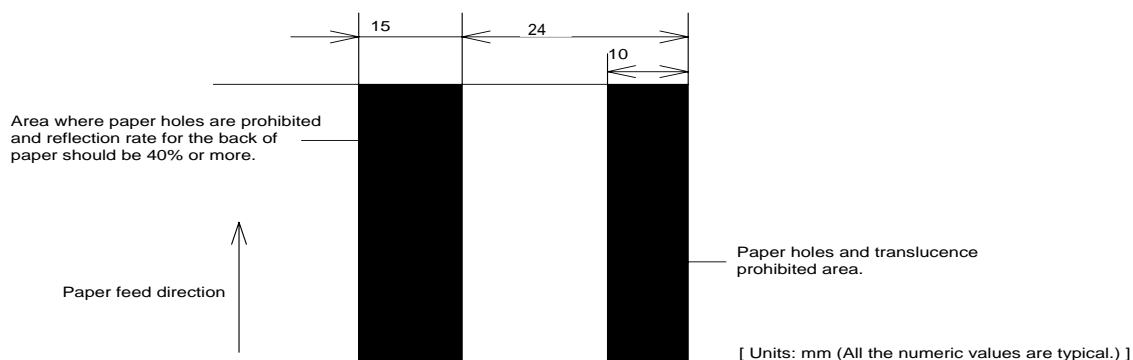

Figure 1.1.5 Paper Holes and Low Reflection Prohibited Area
- Since the slip ejection sensor uses a reflective photo sensor and it detects from the back of slip paper, do not use paper that has holes or dark portions with low reflection (less than 40% reflection) at the sensor position (refer to Figure 1.1.5).